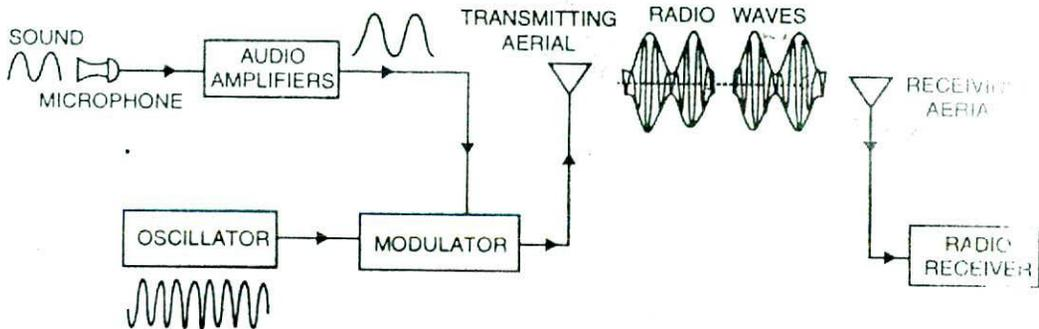

Fig. 18.1
Radio communication means the radiation of radio waves by the transmitting station, the propagation of these waves through space and their reception by the radio receiver. Fig. 18.1 shows the general principles of radio broadcasting, transmission and reception. As a matter of convenience, the entire arrangement can be divided into three parts *viz.* *transmitter*, *transmission of radio waves* and *radio receiver*.
**1. Transmitter.** Transmitter is an extremely important equipment and is housed in the broadcasting station. Its purpose is to produce radio waves for transmission into space. The important components of a transmitter are microphone, audio amplifiers, oscillator and modulator (See Fig. 18.1).
(iii) *Oscillator*. The function of oscillator is to produce a high frequency signal, called a *carrier wave*. Usually, a crystal oscillator is used for the purpose. The power level of the carrier wave is raised to a sufficient level by radio frequency amplifier stages (not shown in Fig. 18.1). Most of the broadcasting stations have carrier wave power of several kilowatts. Such high power is necessary for transmitting the signal to the required distances.